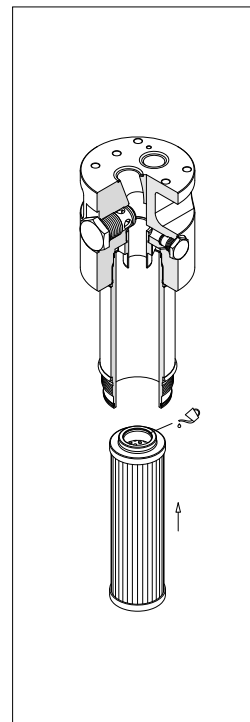

fig. 29
- (Fig. 29) Lubricate with the operating fluid the filter element O-ring, then fit the filter element on the tap. Pay attention not to damage the O-ring seal